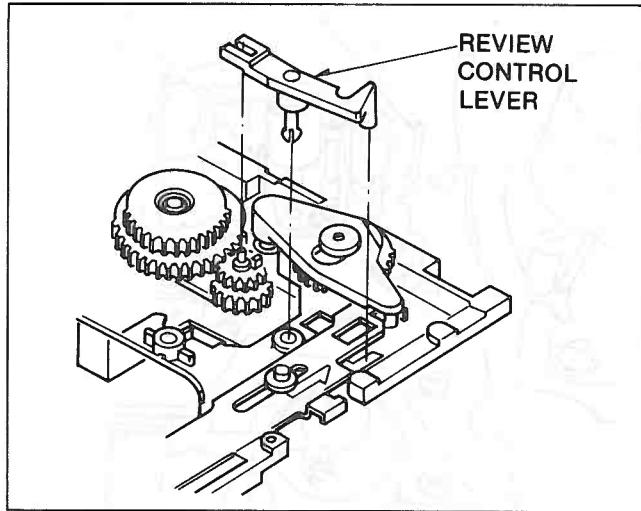

Figure M54
2. Install the Review Control Lever as shown in Figure M54.